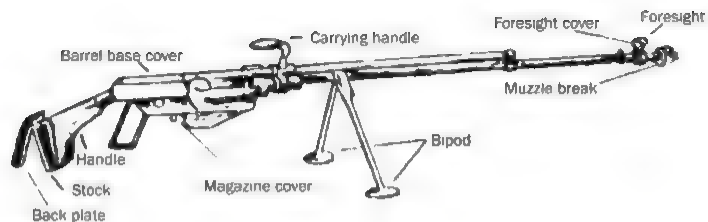

Figure 53. Simonov Anti-tank Rifle.
**The Simonov self-loading (semiautomatic) anti-tank rifle** weighs 20.3 kilograms, its length – 2.2 meters (Figure 53). Combat (normal) rate of fire – 15 rounds per minute. Ammunition is fed into the semiautomatic rifle from a box magazine that contains a clip with five cartridges. You can reload the clip with cartridges without removing it from the rifle. The cartridges should be loaded through the upper receiver.